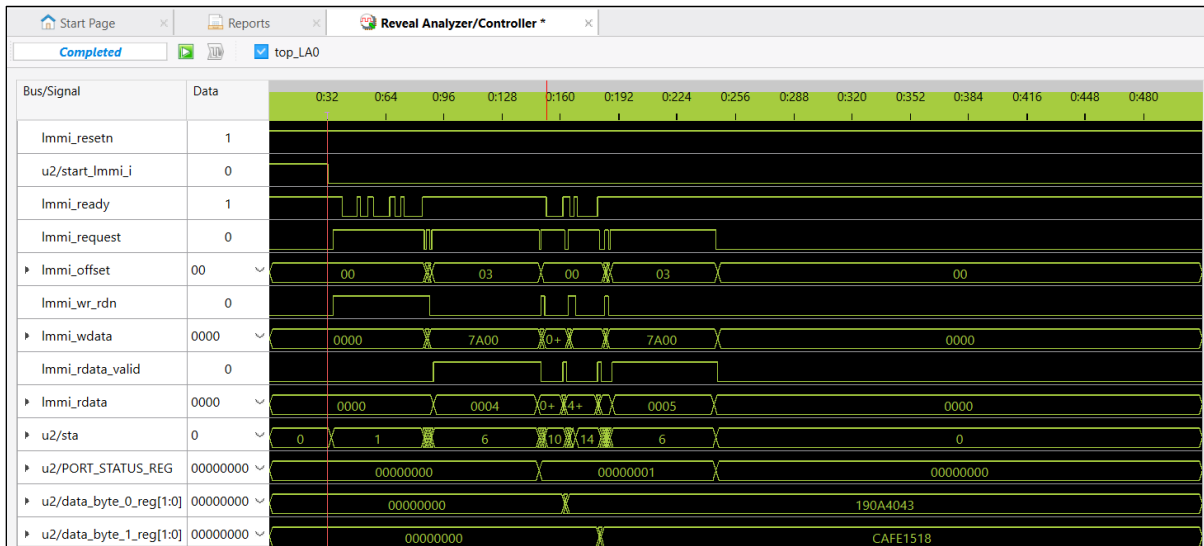

Figure 7.4. LMMI Operation Waveforms in Reveal Analyzer
- Press the SW13 momentary-contact push button. LMMI operation waveforms appear as shown in Figure 7.4. Use the zoom controls to examine specific LMMI write or read operations.